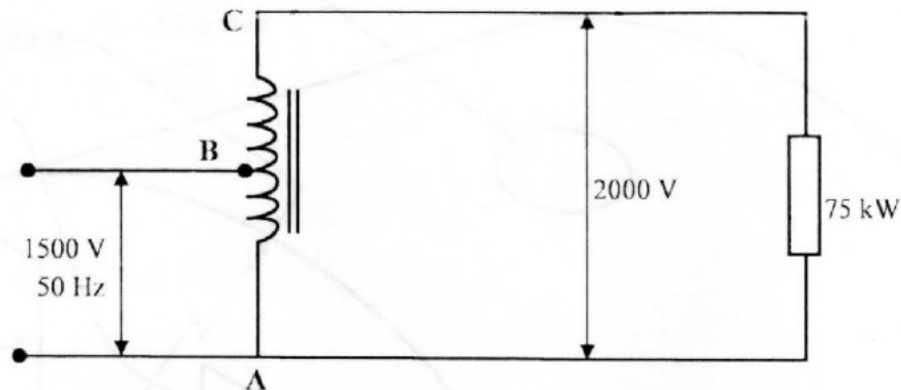

Fig.5
- (c) **Figure 5** shows a step-up transformer supplying a load of 75 kW at unity power factor.